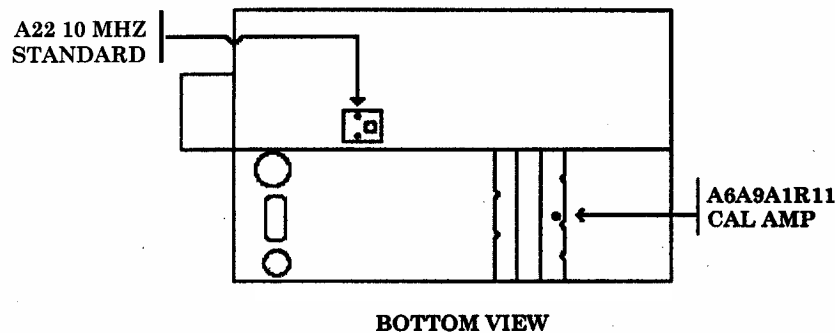

Figure 2. Calibrator amplitude adjustment.
- (1) Set **LINE** switch to **STANDBY**.
- (2) Position TI on its right side.
- (3) Remove TI bottom cover.
- (4) Set **LINE** switch to **ON**.
- (5) Adjust A6A9A1R11 CAL AMP. (fig. 2) for a measuring receiver indication of -10 ± 0.01 dBm (R).